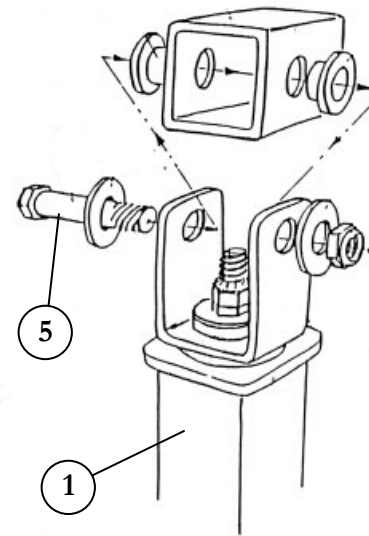

Figure 1
2. Using the Shoulder Bolt – insert the Arm Assembly into the Yoke of the Base Stand Assembly. Tighten the Nut securely - Figure 1.